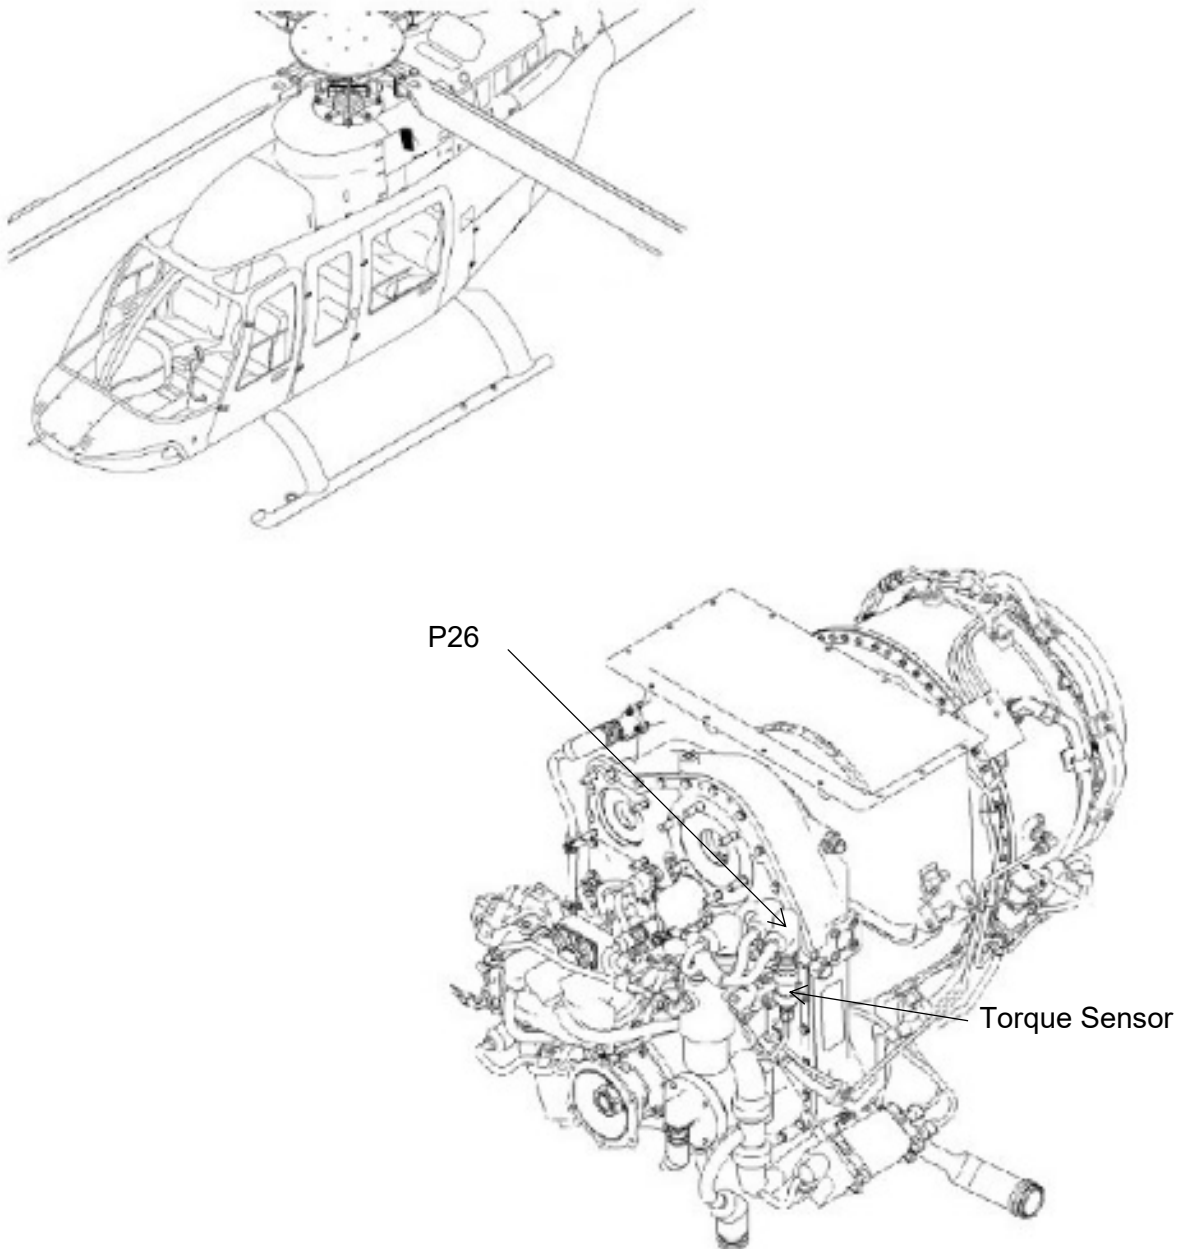

Figure 95-7: Engine Torque Pressure Transducer - Removal and Installation
3. Locate the engine torque pressure transducer (4962-A26), Figure 95-7.